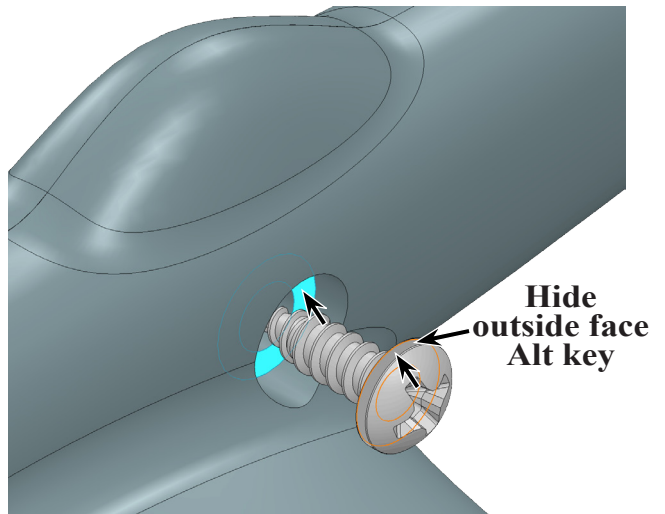

Fig. 13
Step 5. Click **bottom face of counterbore hole in Airplane**, **hide outside cylindrical side face of Screw** and click **bottom face of Screw head**, **Fig. 13**. To hide face, hover cursor over face and press **Alt** key.